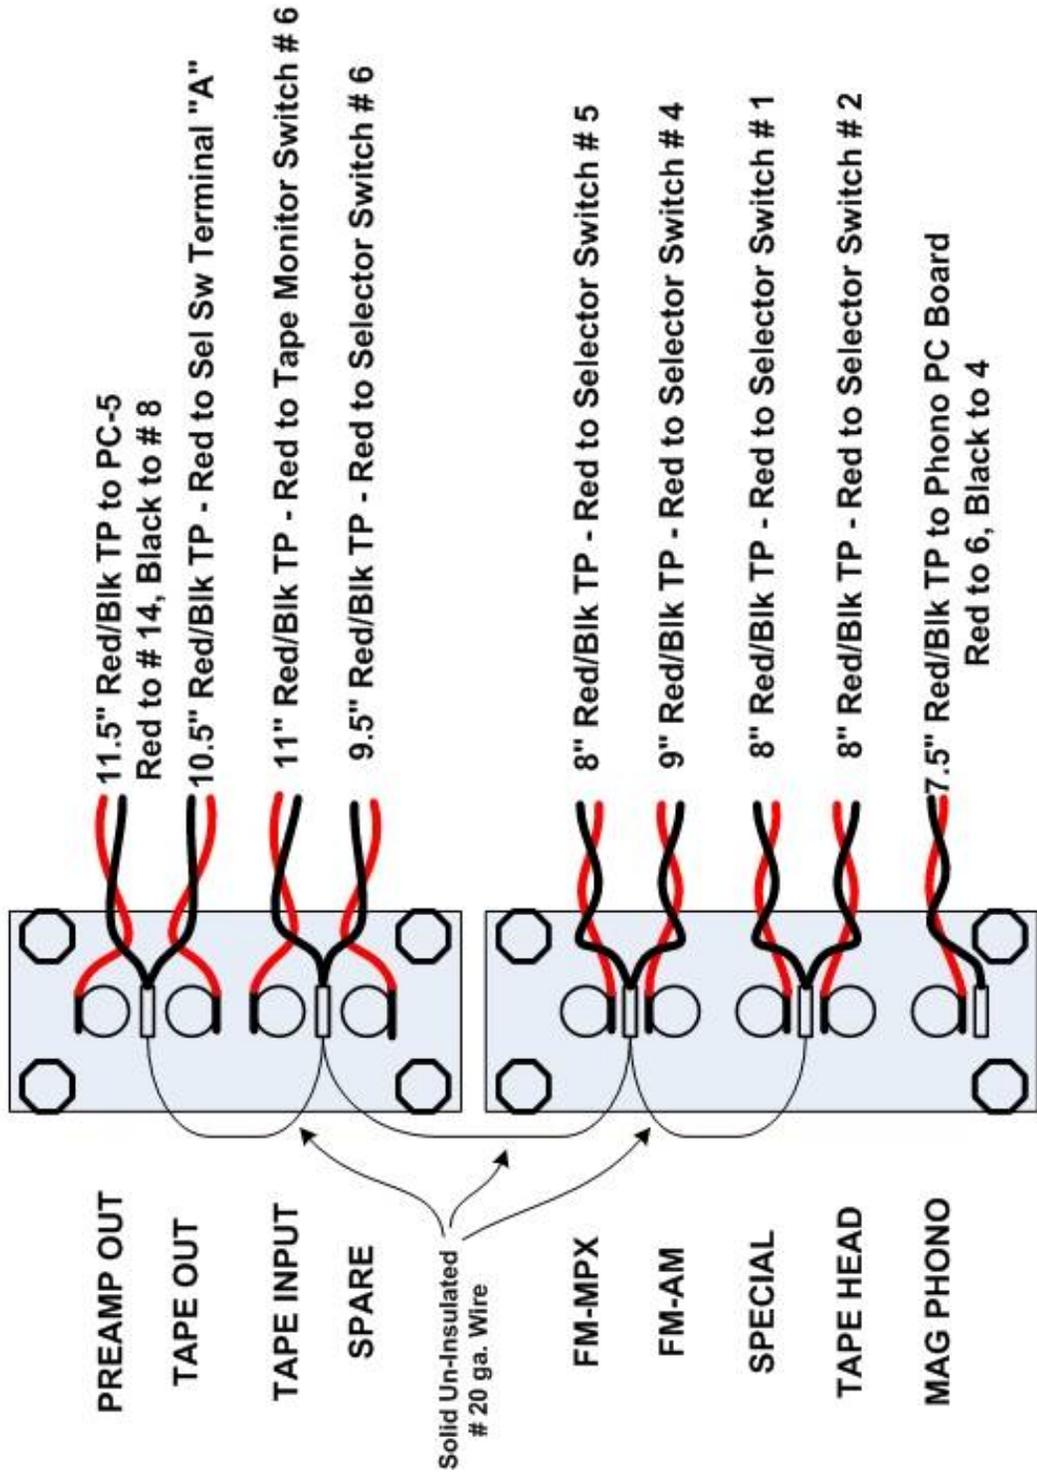

Figure 2 – PAS Preamp Front Panel Selector Switch Installation
D. Preparation of the Front Panel (refer to Figure 2)
1. Connect a red wire (use Teflon insulated 22 ga silver plated copper) from the “A” terminal of the selector switch to the “4” terminal of the Tape Monitor switch as shown in figure 2.
2. Connect a green wire (use Teflon insulated 22 ga. silver plated copper) from the “B” terminal of the selector switch to the “1” terminal of the Tape Monitor switch as shown in figure 2.
4. Locate the 10.5” Red-Black twisted pair connected to the TAPE OUT terminals. Route along the rear of the chassis towards the TAPE HEAD terminals and then make a right angle turn towards the front of the chassis. Prepare the end of this pair as described in step 3 above. Connect the Red wire to terminal “A” of the selector switch (refer to Figure 2).
5. Locate the 11" Red-Black twisted pair connected to the TAPE INPUT terminals. Route along the rear of the chassis towards the TAPE HEAD terminals and then make a right angle turn towards the front of the chassis. Prepare the end of this pair as described in step 3 above. Connect the Red wire to terminal "6" of the Tape Monitor (not Selector) switch (refer to Figure 2).
6. Locate the 11" Red-Black twisted pair connected to the SPARE terminals. Route along the rear of the chassis towards the TAPE HEAD terminals and then make a right angle turn towards the front of the chassis. Prepare the end of this pair as described in step 3 above. Connect the Red wire to terminal # 6 of the selector switch (refer to Figure 2).
7. Locate the 8" Red-Black twisted pair connected to the FM-MPX terminals. Route along the rear of the chassis towards the TAPE HEAD terminals and then make a right angle turn towards the front of the chassis. Prepare the end of this pair as described in step 3 above. Connect the Red wire to terminal # 5 of the selector switch (refer to Figure 2).
8. Locate the 9" Red-Black twisted pair connected to the FM-AM terminals. Route along the rear of the chassis towards the TAPE HEAD terminals and then make a right angle turn towards the front of the chassis. Prepare the end of this pair as described in step 3 above. Connect the Red wire to terminal # 4 of the selector switch (refer to Figure 2).
9. Locate the 8" Red-Black twisted pair connected to the SPECIAL terminals. Route along the rear of the chassis towards the TAPE HEAD terminals and then make a right angle turn towards the front of the chassis. Prepare the end of this pair as described in step 3 above. Connect the Red wire to terminal # 1 of the selector switch (refer to Figure 2). Note, you may be tempted to follow sequence and connect this to the selector switch terminal # 3, however this is incorrect – the correct connection is terminal #1.
10. Locate the 8" Red-Black twisted pair connected to the TAPE-HEAD terminals. Route along the side of the chassis towards the front of the chassis. Prepare the end of this pair as described in step 3 above. Connect the Red wire to terminal # 2 of the selector switch (refer to Figure 2).
11. Locate the Red-Black twisted pair connected to the phono module (PC-6) terminals # 1 & # 4. Prepare the end of this pair as described in step 3 above. Connect the Red wire to terminal # 3 of the selector switch (refer to Figure 2).
14. Locate the 10" Green-Black twisted pair connected to the TAPE OUT terminals. Route along the rear of the chassis towards the TAPE HEAD terminals and then make a right angle turn towards the front of the chassis. Prepare the end of this pair as described in step 3 above. Connect the Green wire to terminal "B" of the selector switch (refer to Figure 2).
15. Locate the 10" Green-Black twisted pair connected to the TAPE INPUT terminals. Route along the rear of the chassis towards the TAPE HEAD terminals and then make a right angle turn towards the front of the chassis. Prepare the end of this pair as described in step 3 above. Connect the Green wire to terminal "3" of the Tape Monitor (not Selector) switch (refer to Figure 2).
16. Locate the 9.5" Green-Black twisted pair connected to the SPARE terminals. Route along the rear of the chassis towards the TAPE HEAD terminals and then make a right angle turn towards the front of the chassis. Prepare the end of this pair as described in step 3 above. Connect the Green wire to terminal # 12 of the selector switch (refer to Figure 2).
17. Locate the 8" Green-Black twisted pair connected to the FM-MPX terminals. Route along the rear of the chassis towards the TAPE HEAD terminals and then make a right angle turn towards the front of the chassis. Prepare the end of this pair as described in step 3 above. Connect the Green wire to terminal # 11 of the selector switch (refer to Figure 2).
18. Locate the 8" Green-Black twisted pair connected to the FM-AM terminals. Route along the rear of the chassis towards the TAPE HEAD terminals and then make a right angle turn towards the front of the chassis. Prepare the end of this pair as described in step 3 above. Connect the Green wire to terminal # 10 of the selector switch (refer to Figure 2).
19. Locate the 7.5" Green-Black twisted pair connected to the SPECIAL terminals. Route along the rear of the chassis towards the TAPE HEAD terminals and then make a right angle turn towards the front of the chassis. Prepare the end of this pair as described in step 3 above. Connect the Green wire to terminal # 7 of the selector switch (refer to Figure 2). Note, you may be tempted to follow sequence and connect this to the selector switch terminal # 9, however this is incorrect – the correct connection is terminal # 7.
20. Locate the 7.5" Green-Black twisted pair connected to the TAPE-HEAD terminals. Route along the side of the chassis towards the front of the chassis. Prepare the end of this pair as described in step 3 above. Connect the Green wire to terminal # 8 of the selector switch (refer to Figure 2).
21. Locate the Green-Black twisted pair connected to the phono module (PC-6) terminals # 7 & # 11. Prepare the end of this pair as described in step 3 above. Connect the Green wire to terminal # 9 of the selector switch (refer to Figure 2).